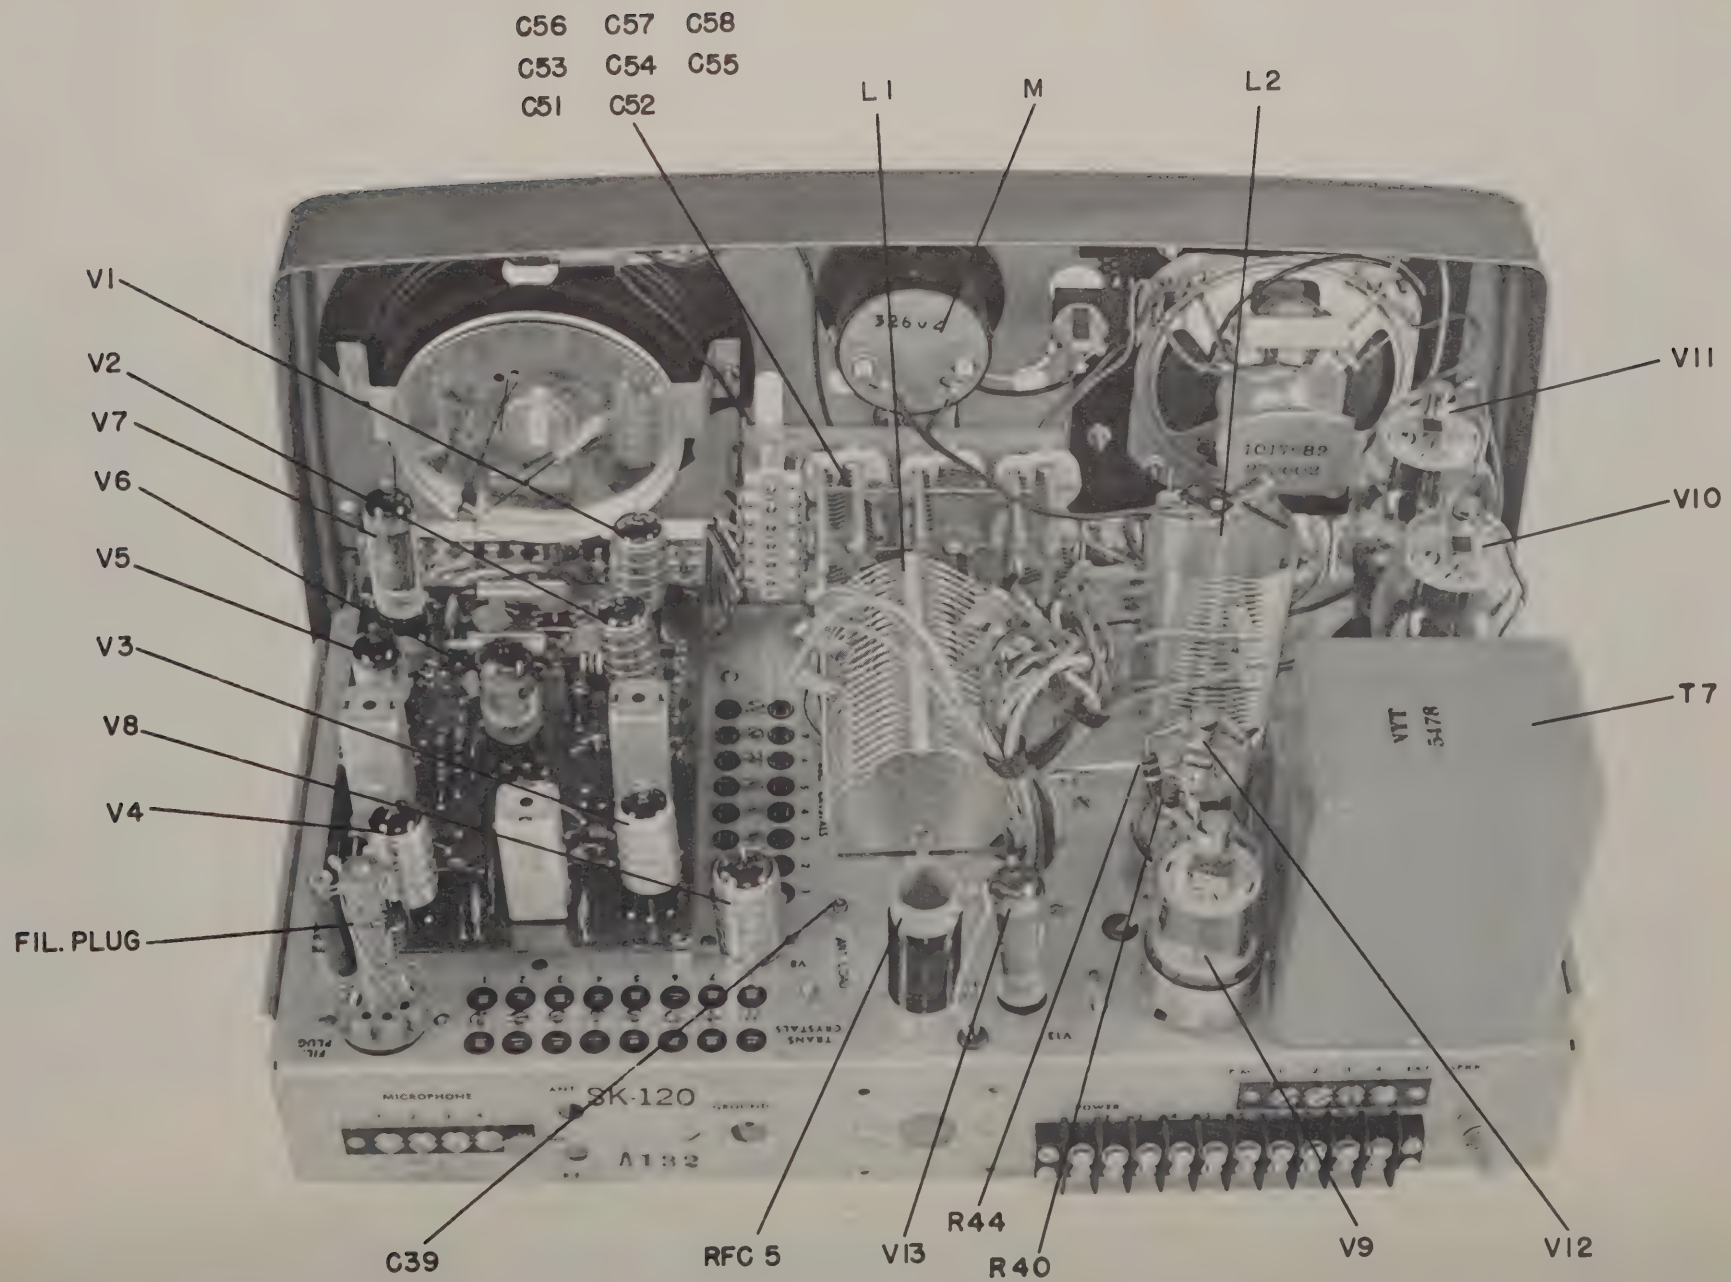

Figure 4. SKIPPER CUSTOM "120" TOP VIEW
If it is necessary to operate the SKIPPER CUSTOM "120" on frequencies other than those listed above, place the channel selector switch on the proper channel. Insert the correct crystals in the proper sockets on the chassis, as shown in Figure 4, and plug in a 0-300 milliammeter in the meter jack marked P.A. METER. Insert crystals for the lower frequencies in ascending order, in sockets marked 1 through 6,
- Step 3. Depress the microphone button, and run the proper coil clip from one turn to another along the length of the power amplifier coil, shown in Figure 4, until a minimum current of approximately 20 ma is noted on the P.A. Meter.
The following adjustments of the antenna loading coil and coupling condensers shown in figure 4, must be made by a holder of at least a Second Class Radiotelephone Operator's license, in accordance with regulations of the Federal Communications Commission. To tune the antenna for resonance and to set the antenna coupling for the correct power amplifier current, proceed as follows: